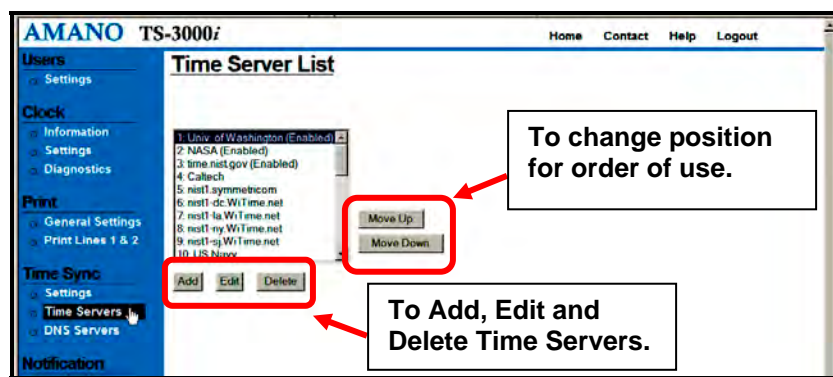

Figure 4-12. Time Server List.
- Step 1. Click on the **Time Servers** link under **Time Sync**, and the **Time Server List** screen will appear (see *Figure 4-12*). The TS-3000i Web Clock provides 18 default Stratum 1 NTP servers for the user. Additionally, the user can add up to 14 additional time servers for a total of 32 time servers. The user can not delete any of the 18 predefined time servers, but any user created time server can be deleted. The time server order signifies the order that they will be tried for time synchronization, i.e., number 1, then number 2, etc.